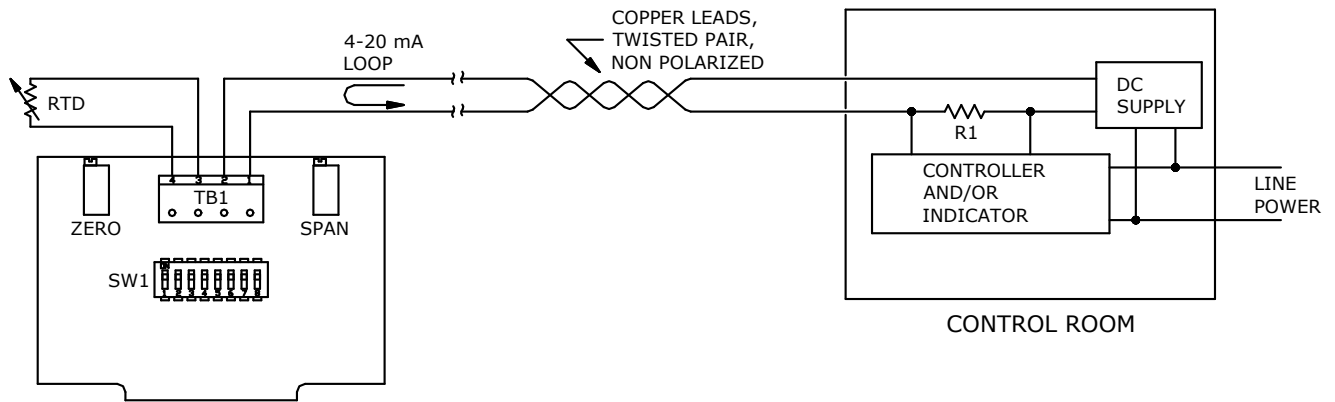

Figure 1
Installation of the TT809 consists of mounting the transmitter and connecting it to power. The housing is mounted using two fold-out tabs on the bottom. Power and RTD wires are connected to the transmitter by 4 screw terminals located near the edge of the circuit board (Figure 1). The transmitter's power and RTD connections are designed for non-polar hook-up, so polarity is not important. Locate the Temptran near the RTD in an area where the ambient temperature stays between -40 and 85 °C (-40 and 185 °F). If calibration is necessary, set dip-switches before sliding transmitter circuit board into metal housing (See *Transmitter Ranging* section).
1. Connect a 1000 ohm RTD to the "RTD" terminals as shown below (Figure 1).